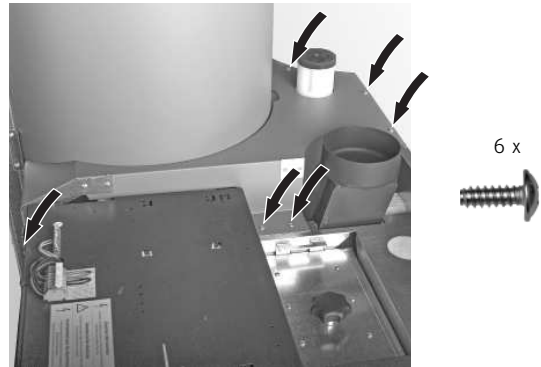

Fig. 77 Secure the cladding with 6 self-tapping screws
- ▶ Carefully insert the cladding at top left and secure it with 6 self-tapping screws – Fig. 77.